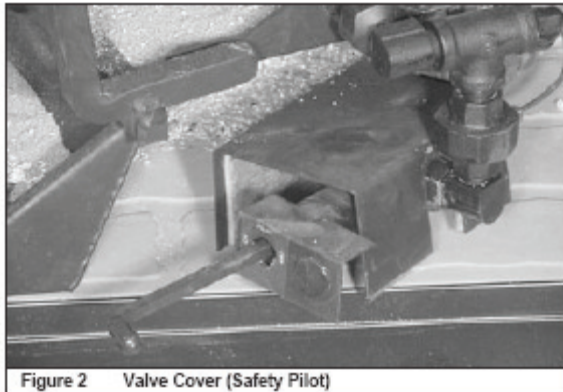

Figure 2 Valve Cover (Safety Pilot)
- During shipping and handling of this appliance the safety pilot control valve cover may not be in place. Once the burner is installed in the fireplace, be sure to place the cover over the valve to prevent overheating. See Figure 2.